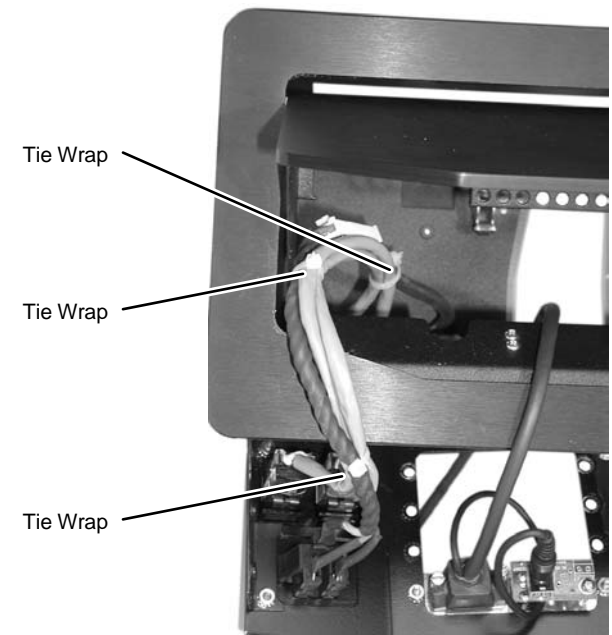

Figure 1-7 — Bundling interior cables
4. Use three tie wraps to bundle the power, CAT 6 and telephone cables (figure 1-7). Use the impressions on the retained CAT 6 cable of the tie wraps that you cut in *Removing the Front Panel Connector*, step 1 as a guide for tie wrapping the bundle.